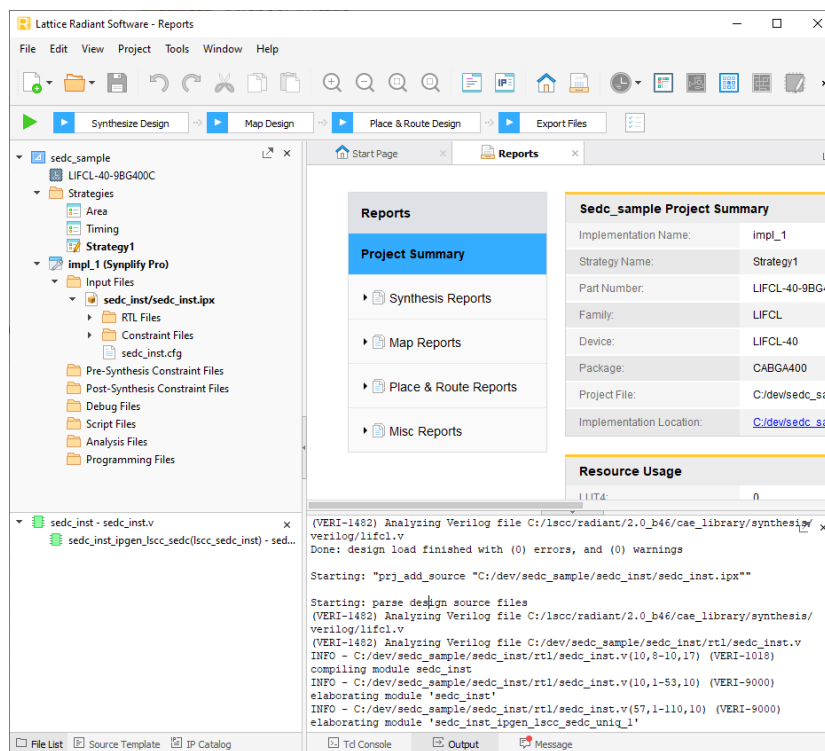

Figure 3.4. SEDC File List
- Click **Generate**. After generation, the IP is automatically added on the active project as shown in Figure 3.4.